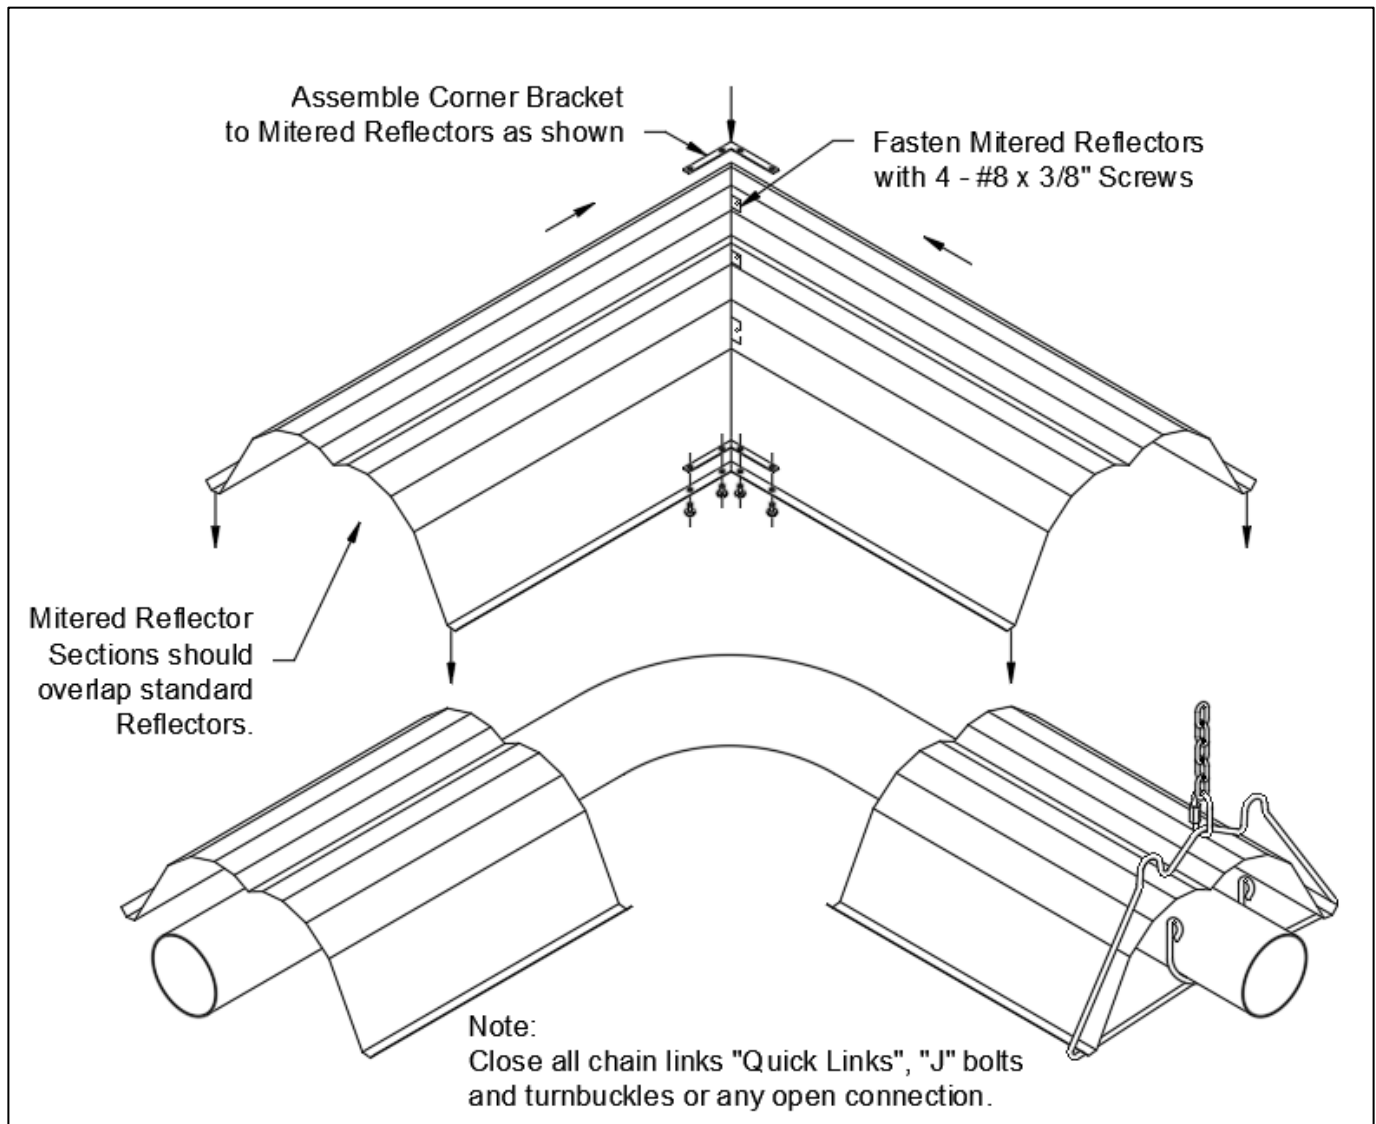

Figure 22: Mitered Reflector Installation
Note: Elbows or U-tubes are typically installed without reflectors. To reduce the above clearance to combustibles distance use miter reflectors (see Figure 22) and refer to Clearance to Combustibles information.
- If used, install the Mitered Reflector as shown below (Figure 22).